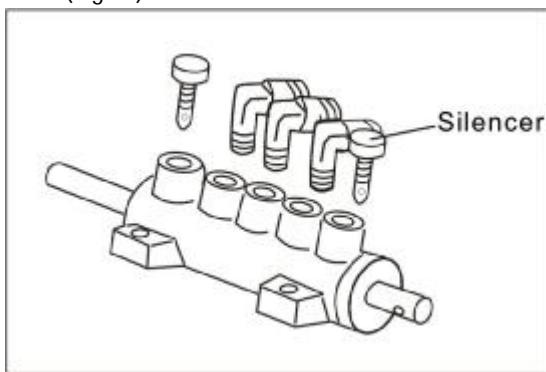

Fig.40
- I Loosen the control valve muffler and air bleed valve muffler, and clean them with compressed air. (Fig.40)